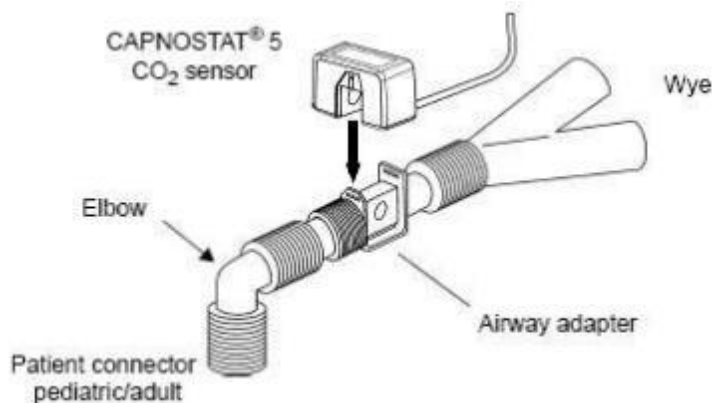

Figure 13-6
- (3) Zeroing. An "Adapter Zero" is a necessary procedure that adjusts the Mainstream CO2 sensor to the optical characteristics of each compatible CO2 adapter. When zeroing, always keep all sources of CO2 away from the sensor, including your own breath. The zeroing only takes 15 to 20 seconds usually. Details can be found in the following text.
- (4) Shown below is the combined CO2 Sensor with a patient circuit. Place the Airway adapter at the circuit, between the Elbow and the Wye, shown as Figure 13-6.